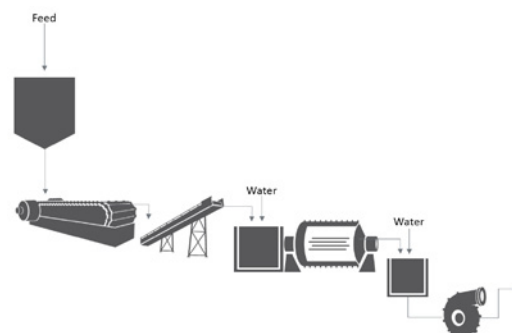

Figure 8
**1. Open circuit:** The material is fed into the mill at a rate calculated to produce the correct product in one pass, typical circuit shown in Figure 8. Open circuits are rarely used in mineral processing applications as there is no control on the required product size